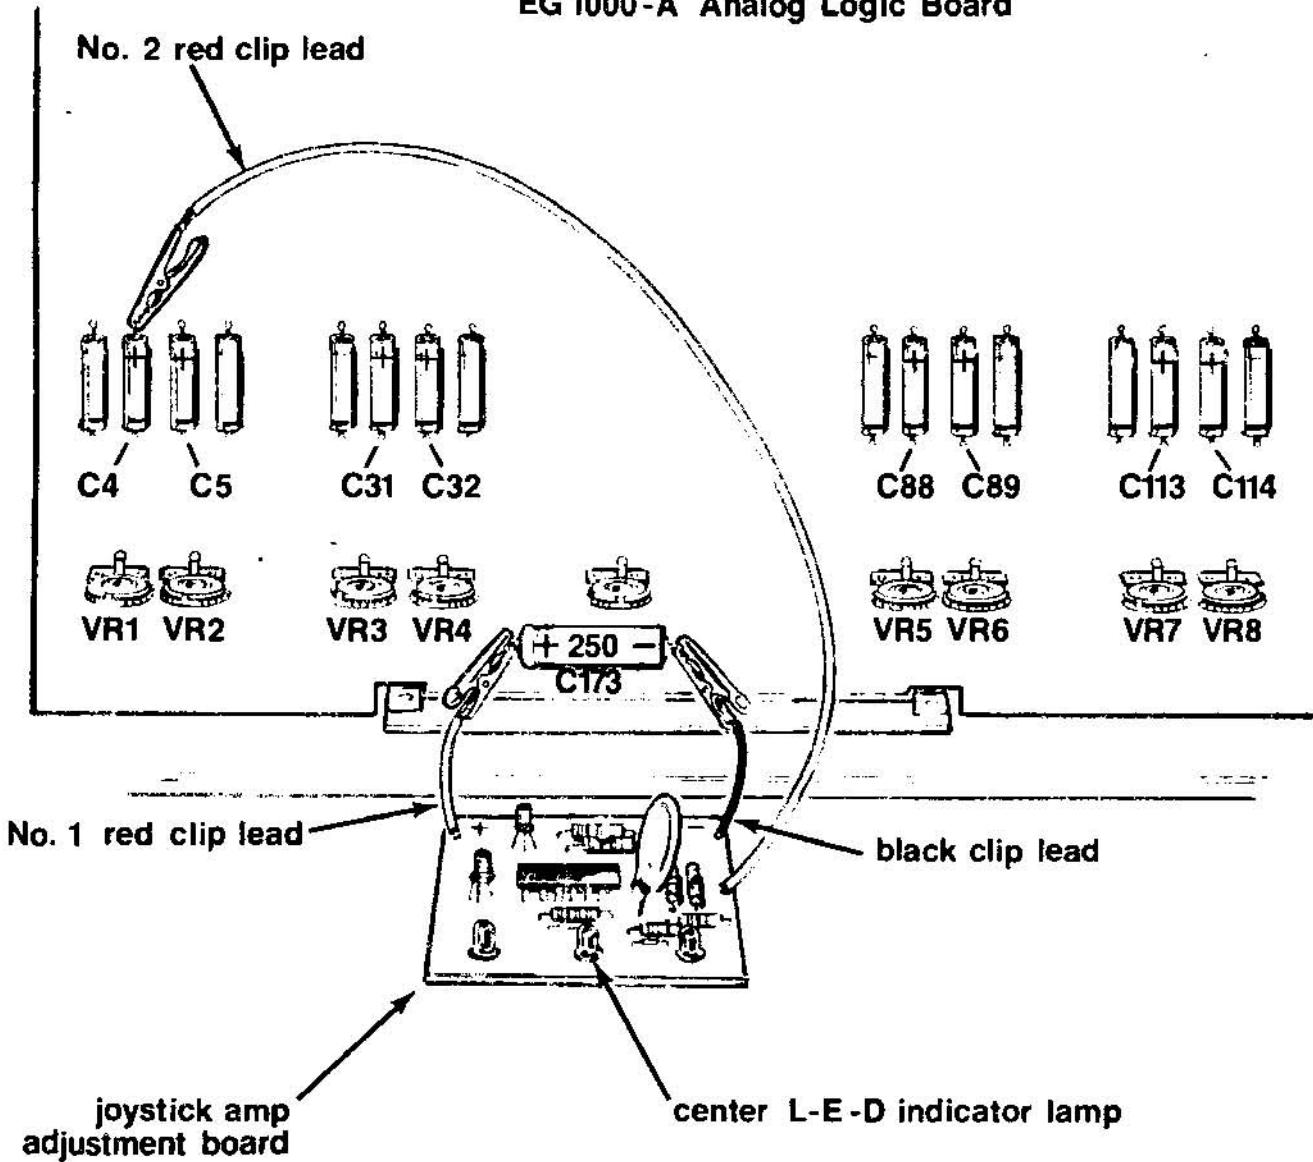

Figure 10 Joystick Amplifier Adjustment
Joystick Amplifier Adjustment - Refer to Figure 10 for the following. The "Joystick" Amplifier Adjustment is factory set and normally require readjustment only when the EGI1000-A Analog Board is changed, or if any of the "Joysticks" are replaced. There are two controls for each car. The controls adjust the voltage at the output of the "Joystick" Amplifiers. The purpose of the adjustment is to minimize drift of each car in the vertical and horizontal direction when the "joystick" is in the upright "rest" position, and to standardize the speed of the cars. The adjustment is relatively simple, when using the "Joystick" Amp Adjustment Board, which is available from your distributor.
- 3) Observing correct polarity, connect the Black and #1 Red clip leads to C173, 250 mfd capacitor as shown in Figure 10. All adjustments will be made with these leads connected.
- 4) Connect the #2 Red clip lead to the Positive (top) side of C4 (1 mfd capacitor). (See Figure 10.) Adjust VR-1 until the center LED indicator is illuminated.